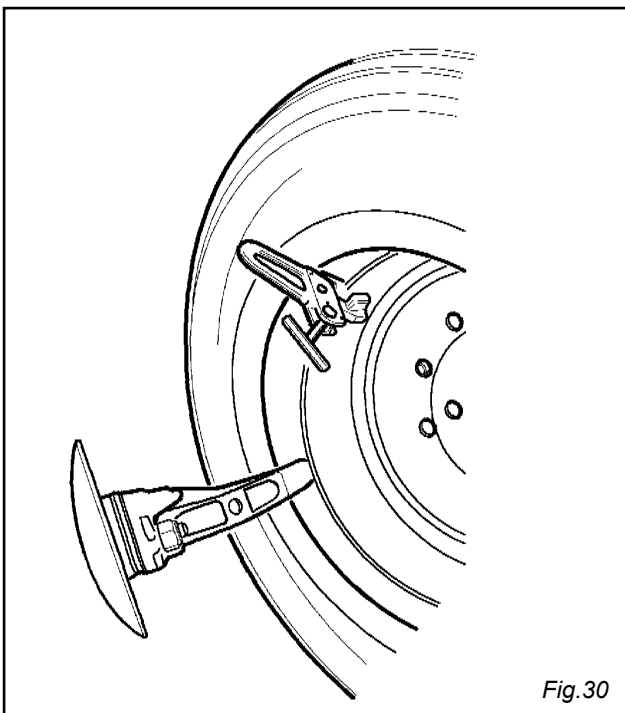

Fig. 30
- 14) Position the g-clamp outside the second bead, about 8 inches (20 cm) to the right of the valve (fig.30)